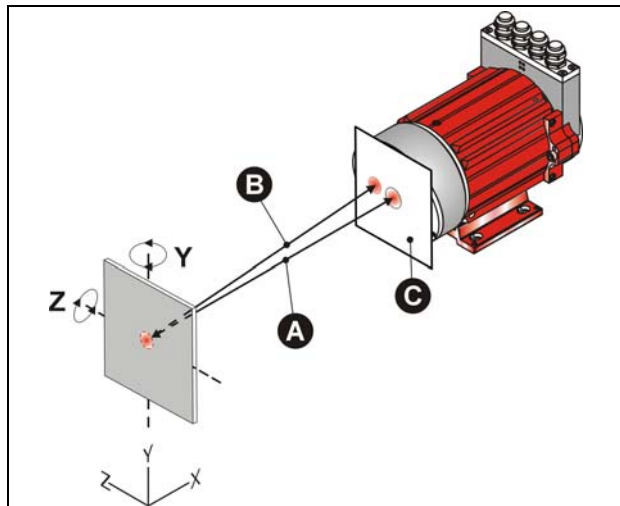
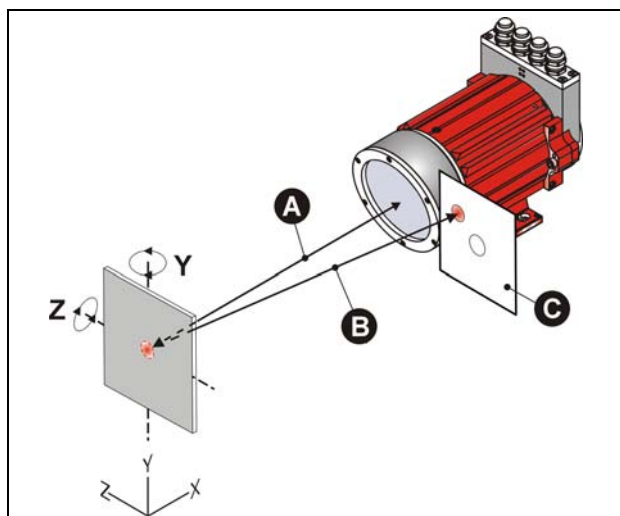

Figure 6: Detection of the surface reflectivity
Figure 7: Transmitting away the surface reflectivity
- **Figure 6: Detection of the surface reflectivity:**
- Centering paper (C) in front of the laser optics so, that the laser beam can unhinderedly emerge by an approx. 2 cm hole. Now, the interfering signal (B) should get visible on the paper (C). To the better location of the interfering signal (B) the reflector foil can be moved also a little. Here it is valid: angle of incidence = angle of reflection
- **Figure 7: Transmitting away the surface reflectivity:**
- Rotate the reflector foil in the Y- or in the Z-axis so, that the interference signal (B) always is outside the laser lens. Nevertheless keeping the inclination of the reflector foil as low as possible to minimize measuring errors caused by misalignments in the procedure movement. For example, if the light spot drifts on the reflector foil around, small differences arise as a result of the oblique position.